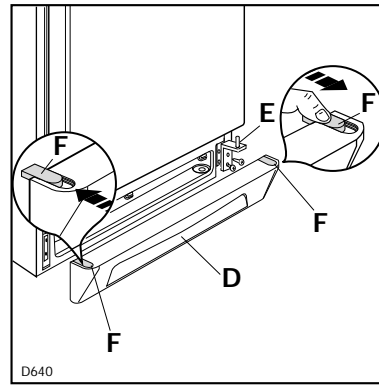

Fig. 3
Remove the ventilation grille (D-Fig. 3).
Unscrew the bottom hinge (E-Fig. 3).
Screw down the bottom hinge (E-Fig. 3) on the opposite side, using the screws previously removed.
Detach the plug (F-Fig. 3) from the ventilation grille (D). To do this, press it in the direction of the arrow.